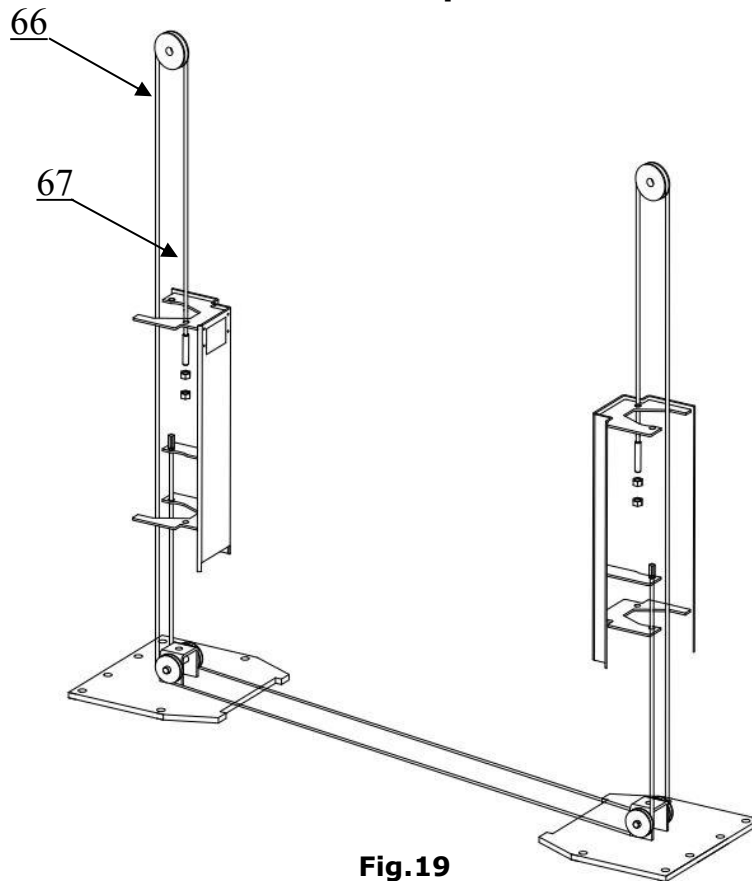

Fig.19
H. Install the cables (See Fig. 19)